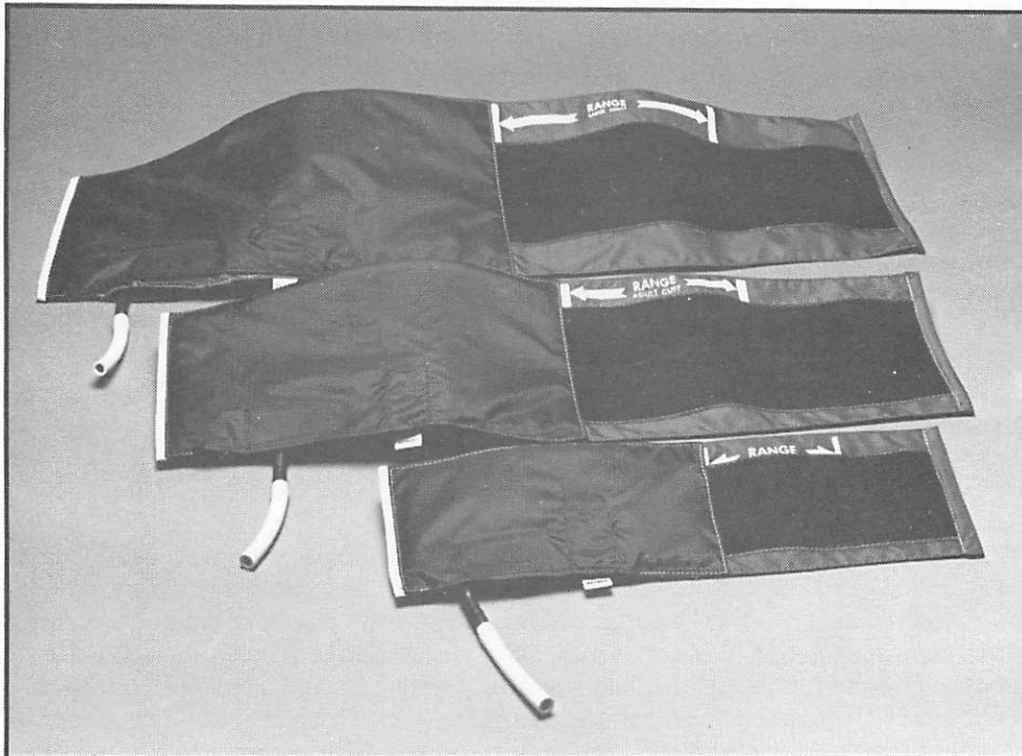

Figure 1-8. IVAC Blood Pressure Cuffs
- k. IVAC Adult Size BP Cuff - Model 1138 (figure 1-8). The cuff wraps as a standard BP cuff. The adult cuff fits arms in the size range 27.9 to 41.7 cm.
- l. IVAC Large Adult Size BP Cuff - Model 1139 (figure 1-8). Identical in form and function to the Model 1138 cuff, but designed to fit large adults. The large adult cuff fits arms in the range of 33.0 to 50.8 cm.
- m. IVAC Child Size BP Cuff - Model 1137 (figure 1-8). Identical in form and function to the Model 1138, but designed to fit children. The child size cuff fits arms in the range of 19.6 to 28.7 cm.